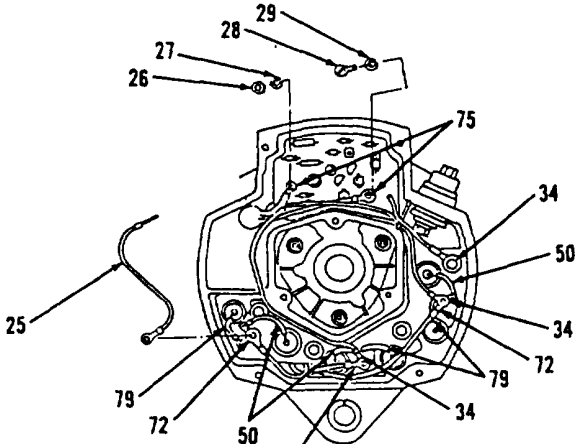
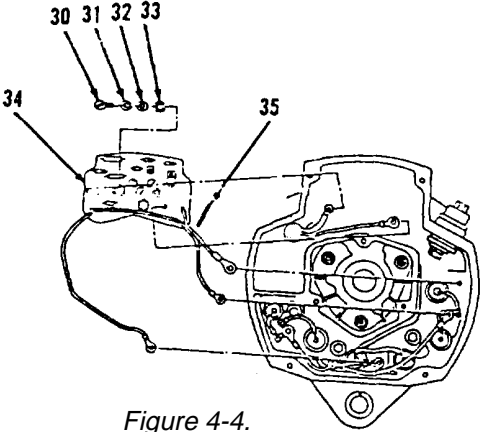

Figure 4-3.
Figure 4-4.
- 9. Disconnect wire assembly (25, Figure 4-3) at terminal.
- 10. Remove nut (26) and lockwasher (27).
- 11. Remove screw (28) and lockwasher (29).
- 12. Disconnect two field coil wire assemblies (75) at terminals.
- 13. Disconnect three regulator wire assemblies (34) at terminals.
- 14. Disconnect three stator wire assemblies (72) at terminals.
- 15. Disconnect three positive diode wire assemblies (50) at terminals.
- 16. Disconnect three negative diode wire assemblies (79) at terminals.
- 17. Remove two screws (30), lockwashers (31 and 32), three washers (33) and regulator (34, Figure 4-4).
- 18. Remove insulator (35).